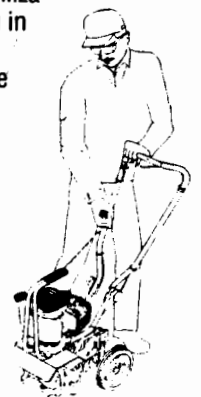

Figure 6
4. Move to the starting position (Figure 6), keeping your feet positioned safely away from the tines.
NOTE: An alternate stabilization method is to stand in the starting position (Figure 6), but place one hand on the carrying handle while pulling the starter rope with the other hand.